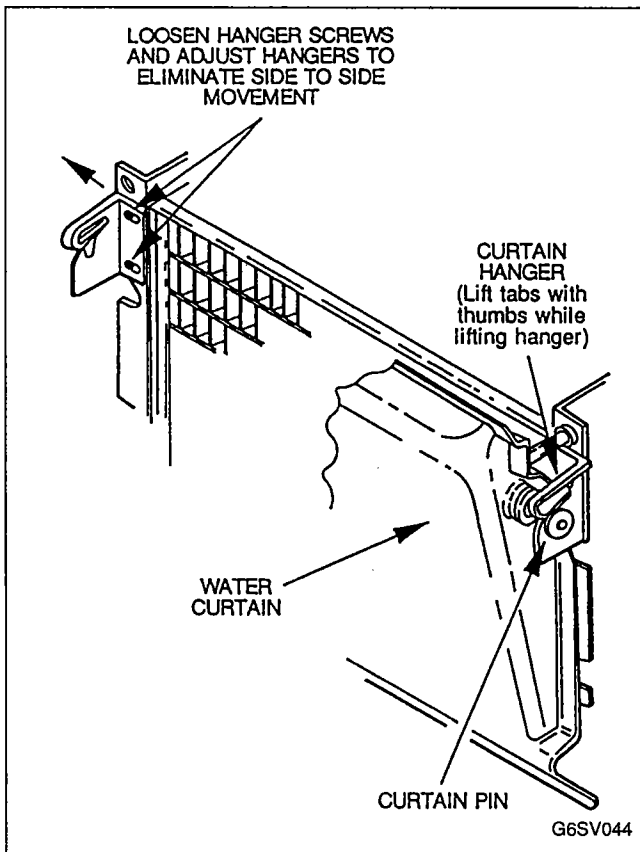

FIGURE 25. WATER CURTAIN CHECK
1. Pull bottom of water curtain (Figure 25) away from evaporator, then release. Curtain should fall back to evaporator.